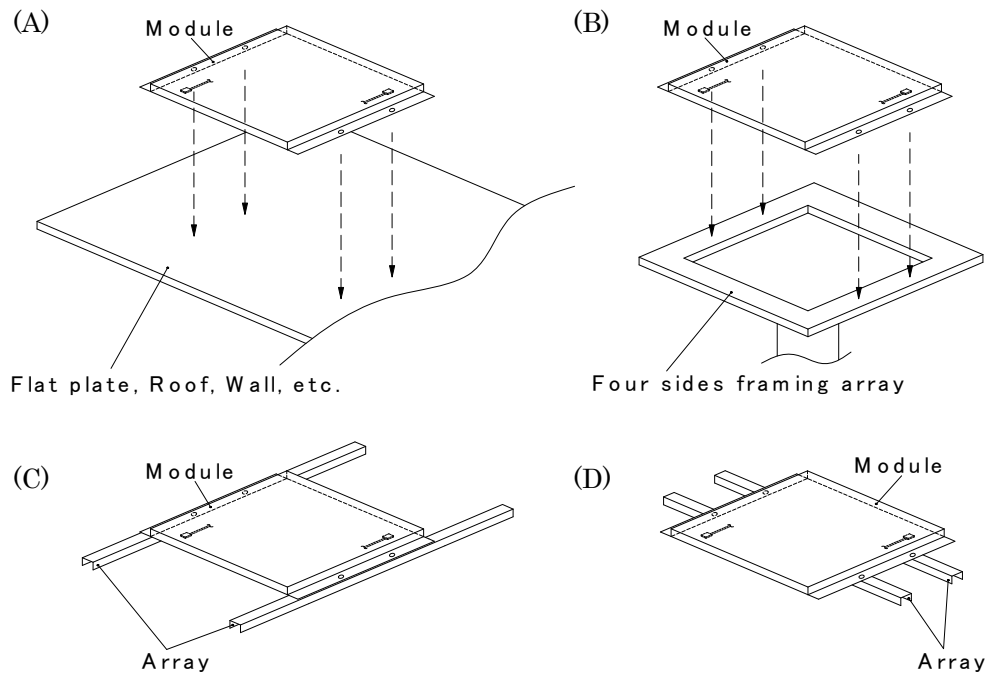

Figure 1
Wind pressure resistance	Front side or back side of the photovoltaic module is less than 2 4 0 0 P a when the installation conditions of (A) or (B) of "Figure 1" are applied.
Local limit	<ul style="list-style-type: none"> • An area where there is no exposure to corrosive gases. • An area where there is no direct exposure to seawater. • An area where snow load is less than 2 4 0 0 P a , when the installation conditions of (A) or (B) of "Figure 1" are applied.
- ① Do not use this module for any purpose except a photovoltaic system.
- ② This module cannot be used as a roofing material.
- ③ This module does not have fire prevention and waterproofing attributes.
- ④ Never use any concentration device because it may break the module.
- ⑤ No blocking diode is installed in this module. Please perform prevention measures for reverse current to the module with equipment, such as a blocking diode or a charge controller.
- ① When choosing a site, avoid trees, buildings or obstructions, which could shadow the modules, especially during the winter months when the height of the sun is lowest in the year.
- ② Fix installation holes by screws and install solar module by supporting four sides' frames. (Refer to "Figure 1".) Attach four sides' frames to installation plate and fix four installation holes by screws, like (A) and (B). Do not install solar module like (C) and (D). For (A) or (B), prepare a frame which has strength of 2400Pa or more.
- ③ Although the anodized aluminum processing is applied to the frame of this module, in a corrosive environment, galvanic corrosion due to contact with a different kind of metal may occur on rare occasions between the frame and another material. In that case, take measures to prevent corrosion.
- ④ As an example to prevent galvanic corrosion, we recommend using washers made of resin between the module frame and the mounting structure.